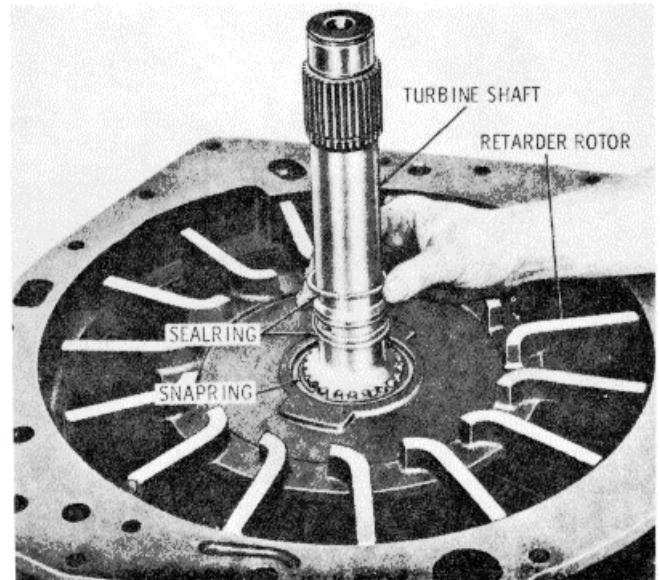

Figure 15-60. Removing Turbine Shaft Seal Ring
1. Remove three hook-type seal rings from the turbine output shaft (Figure 15-60). The rotor is press fit onto the turbine output shaft.